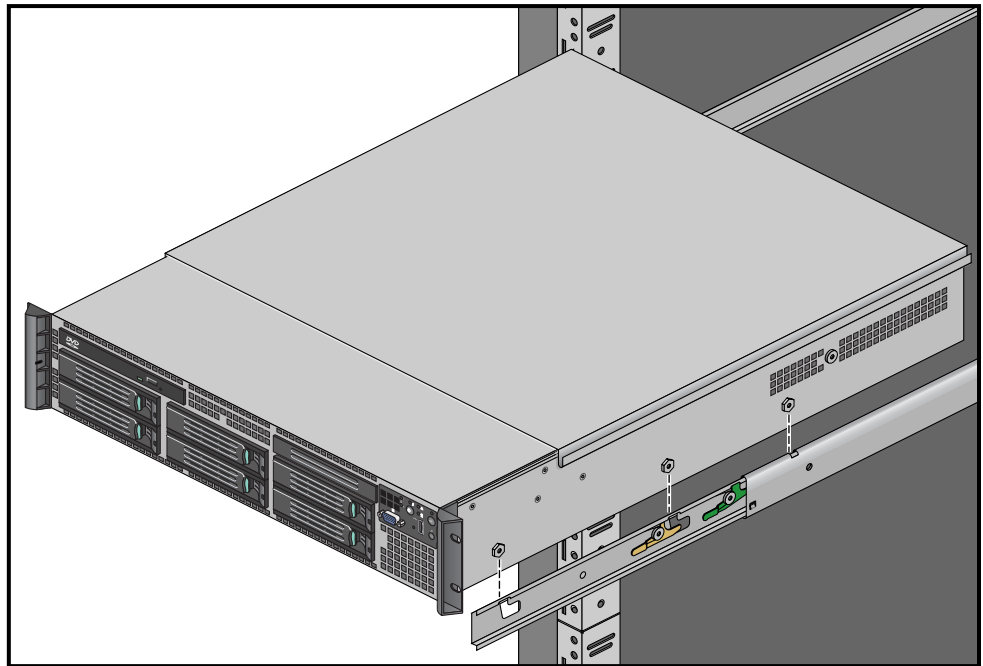

Figure 1-7 NAS Appliance Slide Rail Mounting Stud Positions
3. Using two people, align and insert the NAS appliance's mounting studs into the component mounting channels on the two slide rails, see Figure 1-7 for an example.